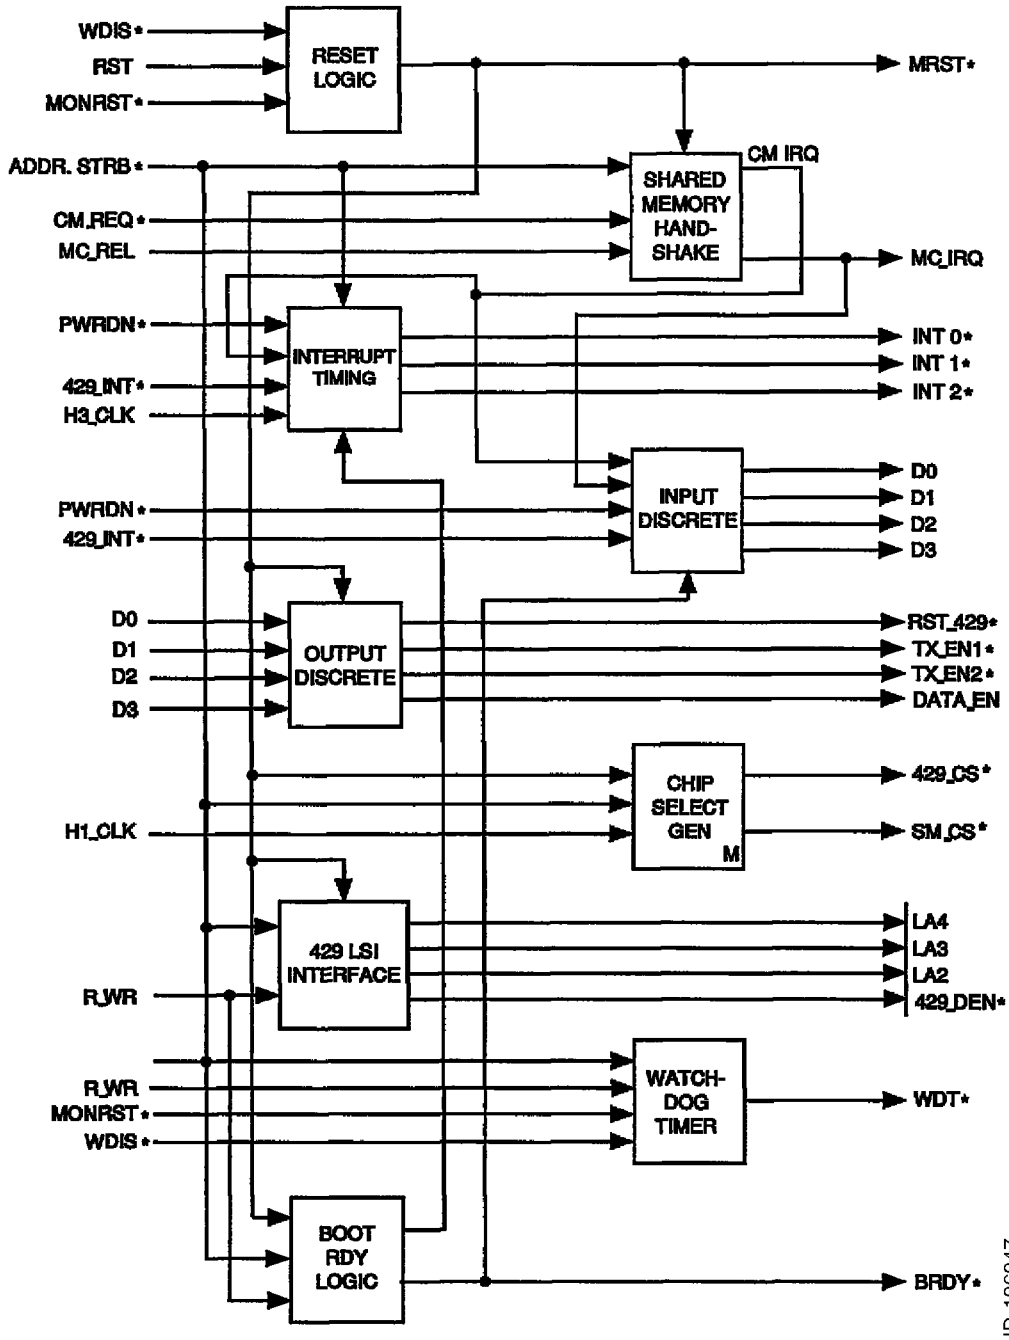

Figure 8. (Sheet 1 of 1) U11 Functional Block Diagram (GRAPHIC 34-42-37-99B-809-A01)
(2) Shared Memory Interface
- (c) Programmable logic device U11 is a logic device, which is programmed on the module by connector J6043 connector. Figure 8 (GRAPHIC 34-42-37-99B-809-A01) is a block diagram of U11.
- (e) The communications for the shared memory is done with two flip-flops implemented in the programmable logic device as shown in Figure 8 (GRAPHIC 34-42-37-99B-809-A01). The signal definitions are as follows: